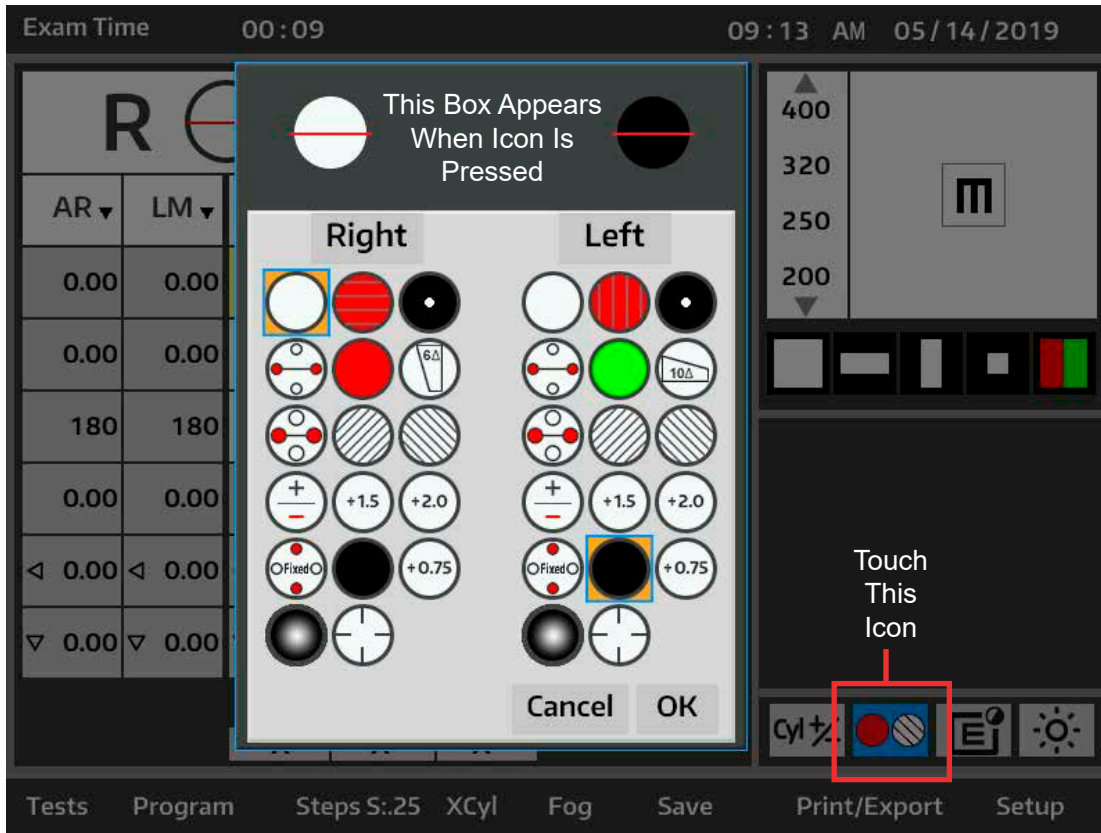

Figure IS-31 Auxiliary Lenses Screen
1. Touch **RED/POLARIZED Lens Icon**, located on the bottom of the screen, just below the chart, to access the auxiliary lenses and filters. Refer to Figure IS-31.
Note: The lenses and filters appear in a pop-up box. Refer to Figure IS-31.
2. Press **OK**, located at the bottom of the pop up screen, to apply the desired filters to the lens apertures. Refer to Figure IS-31.